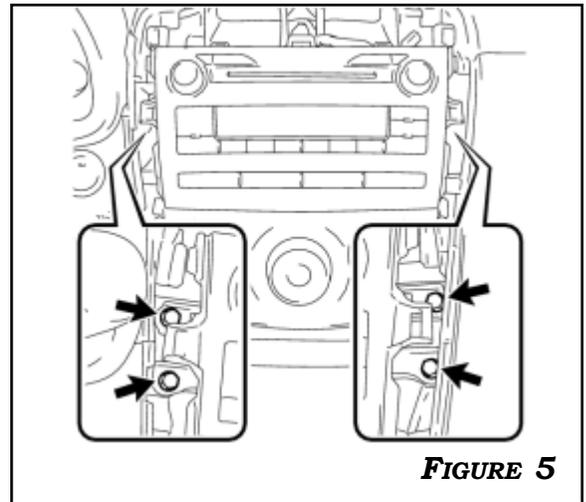

FIGURE 5
5. REMOVE THE (4) 10MM BOLTS. PULL THE RADIO RECEIVER WITH BRACKET TOWARD THE REAR OF THE VEHICLE AND DISENGAGE THE 4 CLIPS. PULL THE RADIO RECEIVER TOWARD THE REAR OF THE VEHICLE AND DISENGAGE THE 4 CLIPS. **FIGURE 5**